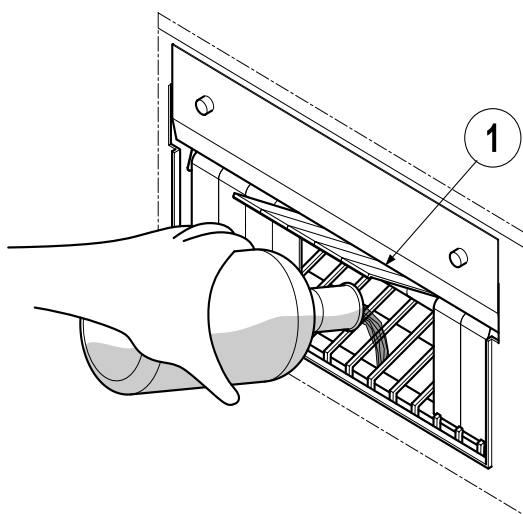

FIG. 4
- Pour some potable water into the bowl inside using a bottle, access through the flags (Fig. 4 Part 1);